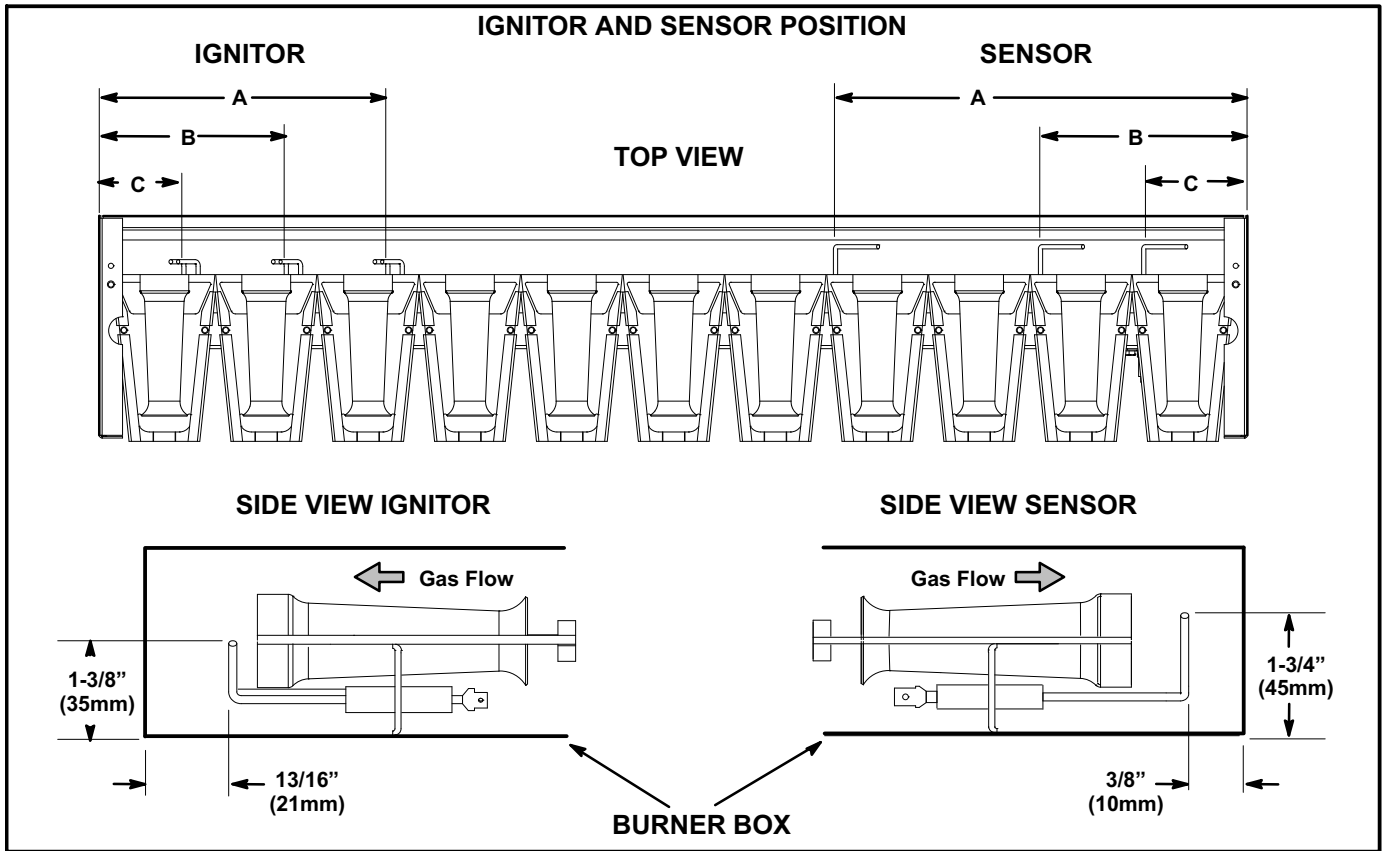

FIGURE 22
- 5- Check the alignment of the ignitor and the sensor as shown in figure 22 and table 10.